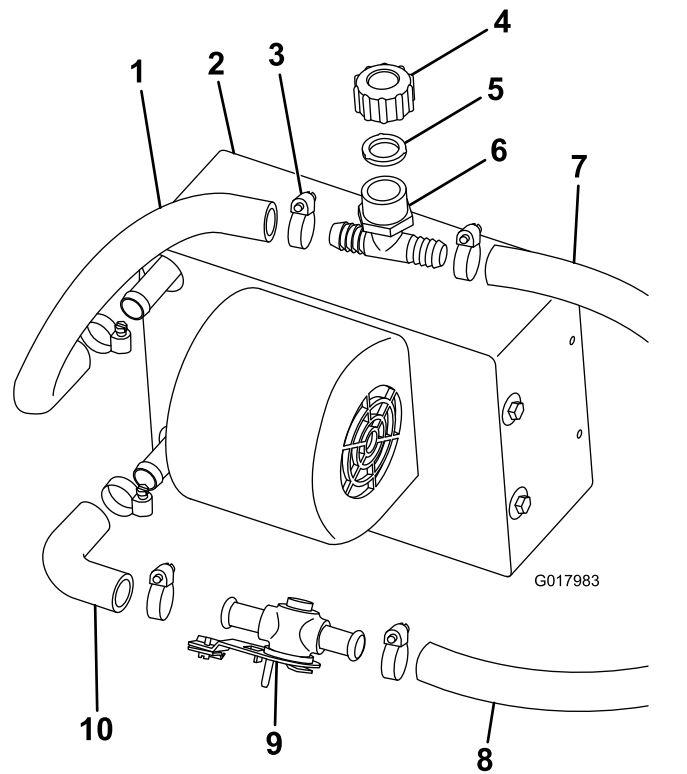

Figure 2
1. Loosely attach the elbow hose to the bottom fitting of the heater assembly with a hose clamp (Figure 2).
2. Connect the heater valve to the elbow hose with a hose clamp (Figure 2).
3. Cut a 31 cm or 12 inches piece of hose (5/8 inch) and attach it to the top fitting of the heater assembly with a hose clamp (Figure 2).
4. Connect the white fill tee, gasket, and cap to the upper heater hose with a hose clamp (Figure 2).